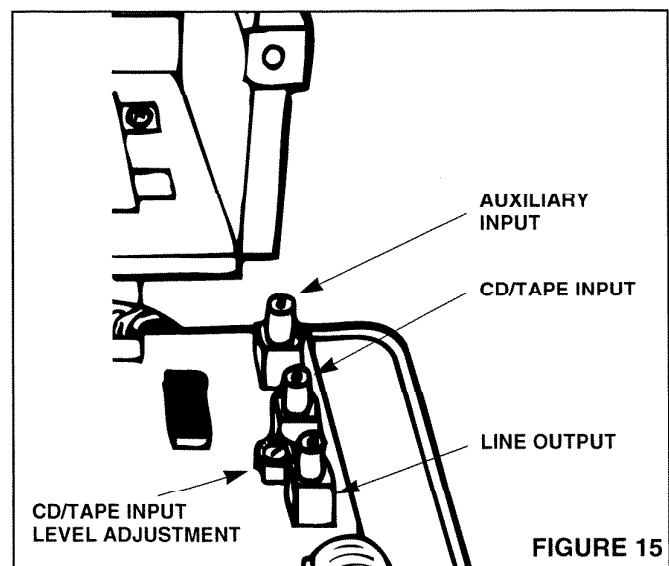

FIGURE 15
1. Refer to Figure 15. To connect an external audio source (CD, Cassette, etc.) to the IM-3303 Radio Intercom, locate the CD/TAPE and AUXiliary input on the lower right side of the master station's main PC board.